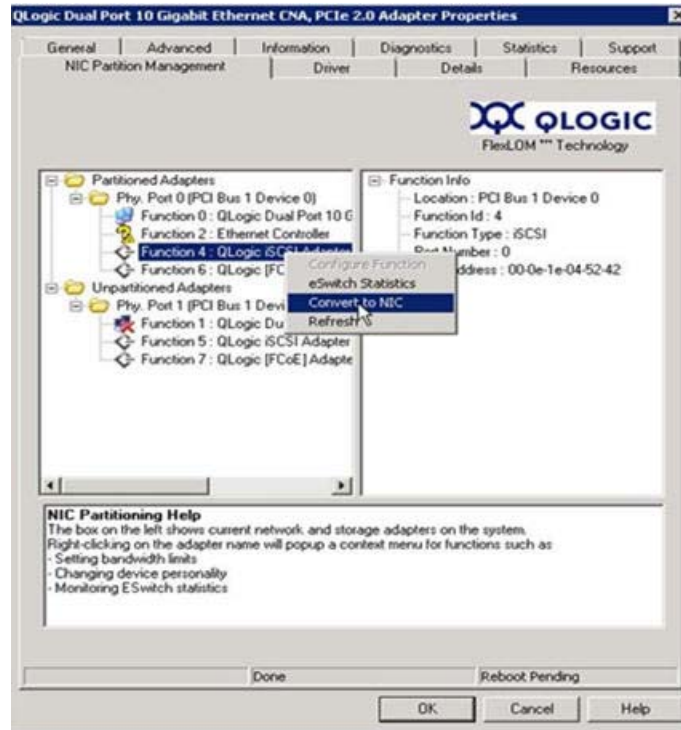

Figure 44: Selecting Convert to NIC from Context Menu
3. On the **NIC Partition Management** tab, right-click one of the enabled functions and select **Convert to <Protocol>** from the context menu (Figure 44).